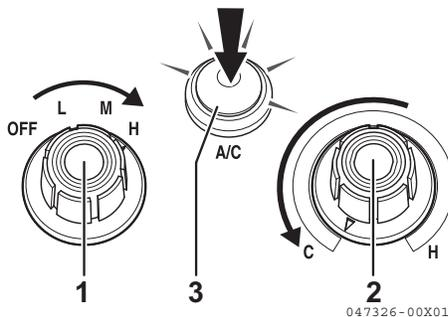

Fig. 8-33
2. Set the fan switch (**Fig. 8-33, 1**) at the H level.
3. Set the temperature control dial (**Fig. 8-33, 2**) to the C position. (Full counterclockwise position.)
4. Turn the air conditioner switch (**Fig. 8-33, 3**) ON. (The lamp goes on.)